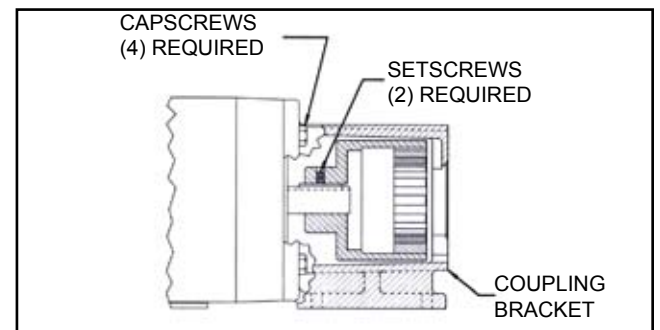

FIGURE 14
- You should be able to visually inspect the outer magnets from the end of the bracket. If removal is necessary, start by removing the (4) capscrews (See Figure 14) and